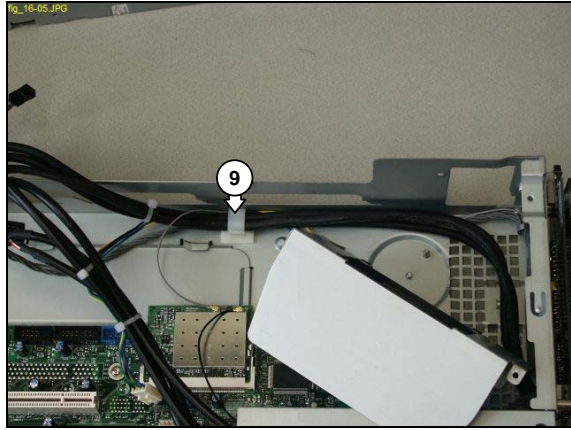

Figure 12.15-5
4. Remove the CPU fan cable from the cable clip (9). See Figure 12.15-5.